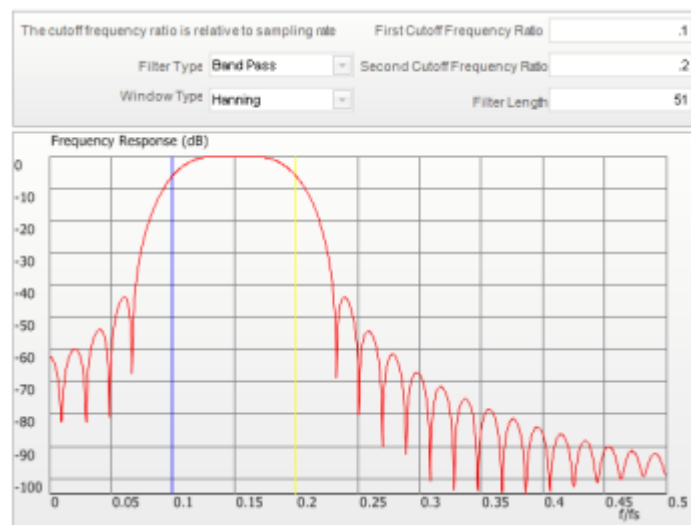

Figure 207. Filter design shows cutoff frequencies, ripple, band stop attenuation.
**Cutoff frequencies:** For low-pass or high-pass filters, only one cutoff frequency is needed. Band pass or band-stop filters require two cutoff frequencies to fully define the filter shape. Figure 207 shows a typical band-pass filter design with the two cutoff frequencies set to approximately 0.1 and 0.2 Hz as indicated by the blue and yellow vertical lines.
attenuation the better. In Figure 207 the stop band attenuation is  $> 40$  dB as seen from the highest side lobe just below 0.25 Hz.
**Pass band ripple:** Ripple is an unavoidable characteristic if a digital filter. It refers to the fluctuation in the filter shape outside the transition frequencies. If a very flat filter is required then it can be specified by choosing a very low ripple. In Figure 207 ripple is seen in the stop band and no ripple is evident in the pass band. Ideally the pass band should be very flat and some ripple is tolerable in the stop band.
**Width of transition bands:** This refers to the filter shape between a band pass and a band stop region. Ideally this transition band should be very small. However, a very narrow transitional band requires a higher order filter which affects the filter response time and can also affect ripple. In Figure 207 the transition bands are between 0.05 to 0.1 and 0.2 to 0.25.